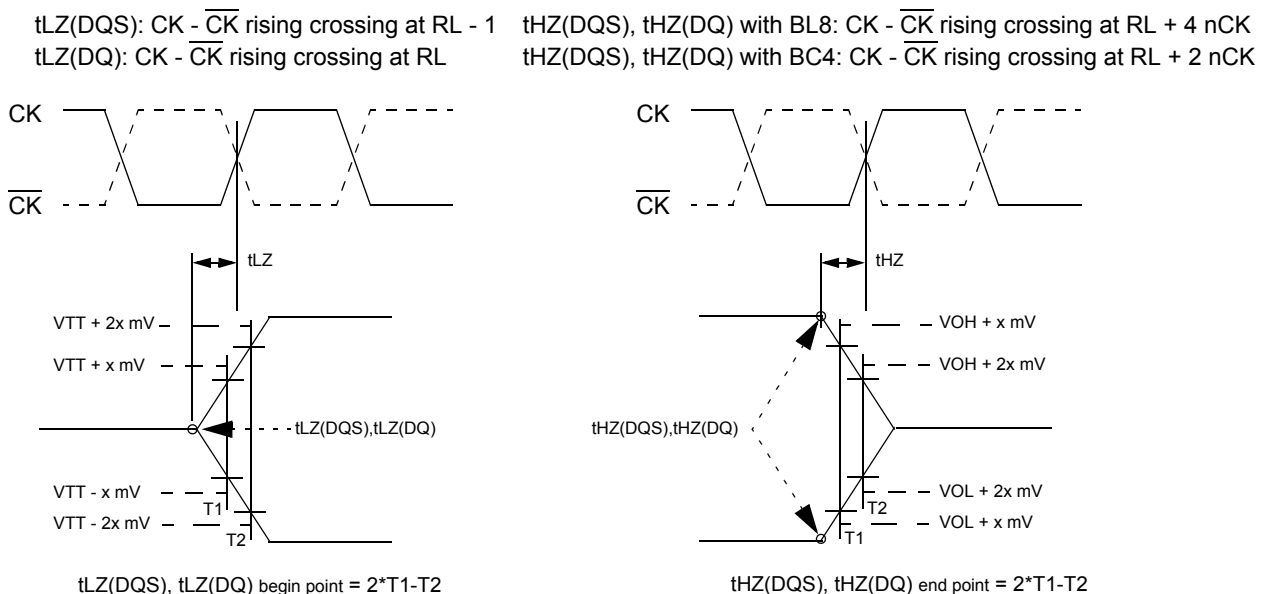

Figure 27. tLZ and tHZ method for calculating transitions and endpoints
tLZ(DQS), tHZ(DQS) for preamble/postamble (see 2.13.2.3 and Figure 27)
2.13.2.3 tLZ(DQS), tLZ(DQ), tHZ(DQS), tHZ(DQ) Calculation
tHZ and tLZ transitions occur in the same access time as valid data transitions. These parameters are referenced to a specific voltage level which specifies when the device output is no longer driving tHZ(DQS) and tHZ(DQ), or begins driving tLZ(DQS), tLZ(DQ). Figure 27 shows a method to calculate the point when device is no longer driving tHZ(DQS) and tHZ(DQ), or begins driving tLZ(DQS), tLZ(DQ) by measuring the signal at two different voltages. The actual voltage measurement points are not critical as long as the calculation is consistent. The parameters tLZ(DQS), tLZ(DQ), tHZ(DQS), and tHZ(DQ) are defined as singled ended.